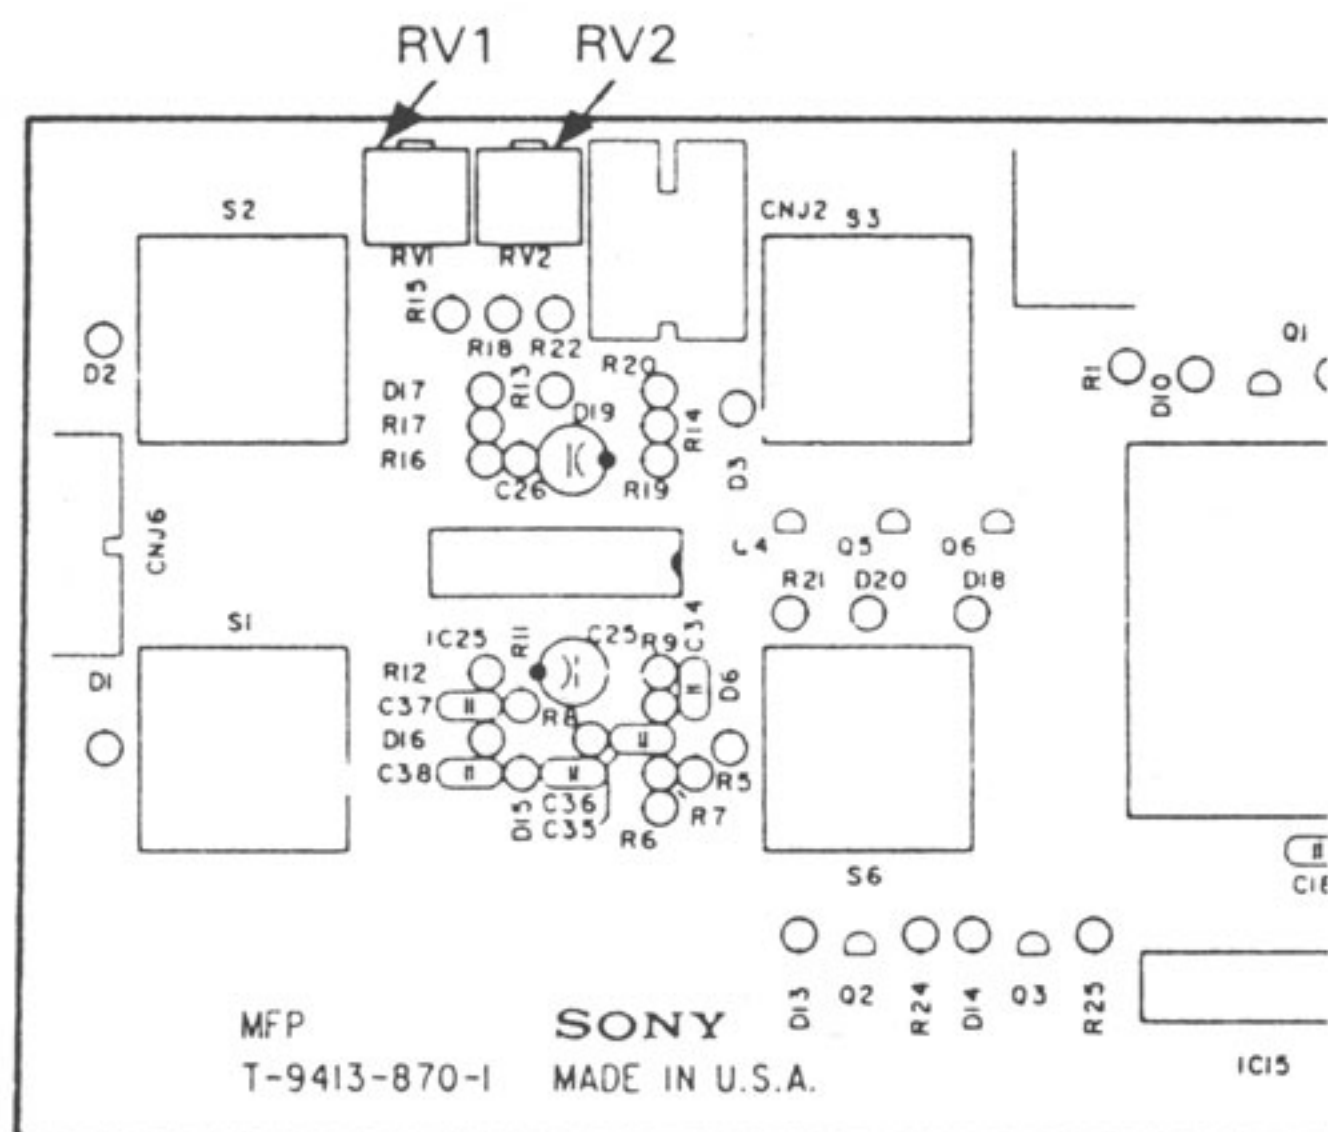

Figure 7-11. MFP Board
- STEP 5.** Adjust RV2 on the MFP board, as shown in Figure 7-11, to set the desired EOT sensor sensitivity.